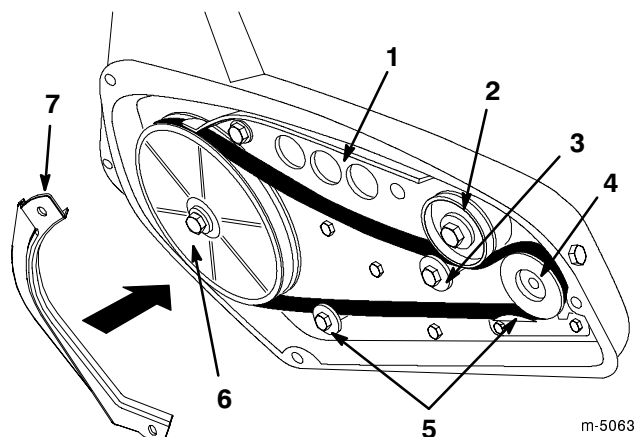

Figure 22
6. Remove the old drive belt from the engine pulley and the idler pulley (Fig. 22).
7. Push down on the idler pulley and remove the drive belt from the rotor pulley (Fig. 22).
8. Push down on the idler pulley and route the new drive belt around the rotor pulley (Fig. 22).
9. Release the idler pulley and route the drive belt over the two belt guides, around the engine pulley, and between the idler pulley and the roller (Fig. 22).
Important The drive belt must be on top of the roller and the two belt guides as shown in Figure 22.